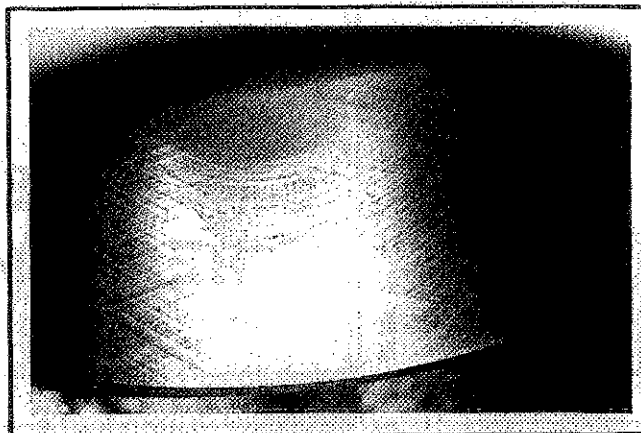

Figure 10-2. Cylinder Bore Crosshatch After Honing
3. When bore is within .0025" of desired size, remove coarse stones and replace with burnishing stones. Continue with burnishing stones until within .0005" of desired size and then use finish stones (220-280 grit) and polish to final size. A crosshatch should be observed if honing is done correctly. The crosshatch should intersect at approximately 23-33° off the horizontal. Too flat of an angle could cause the rings to skip and wear excessively, too steep of an angle will result in high oil consumption (refer to Figure 10-2).